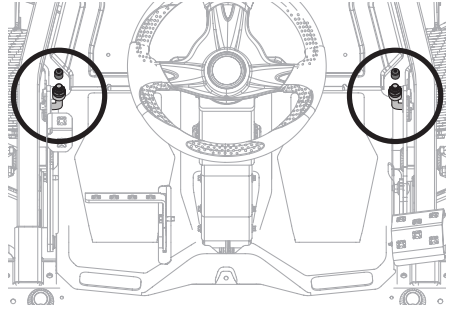

Figure 39
- a. Remove the end cap on both front deck height adjust rods and save for later installation (Figure 39).
- b. Rotate both front nuts clockwise to raise the front deck pitch or counterclockwise to lower the front deck pitch, depending on the needed adjustment. Adjust each nut equally (Figure 39).